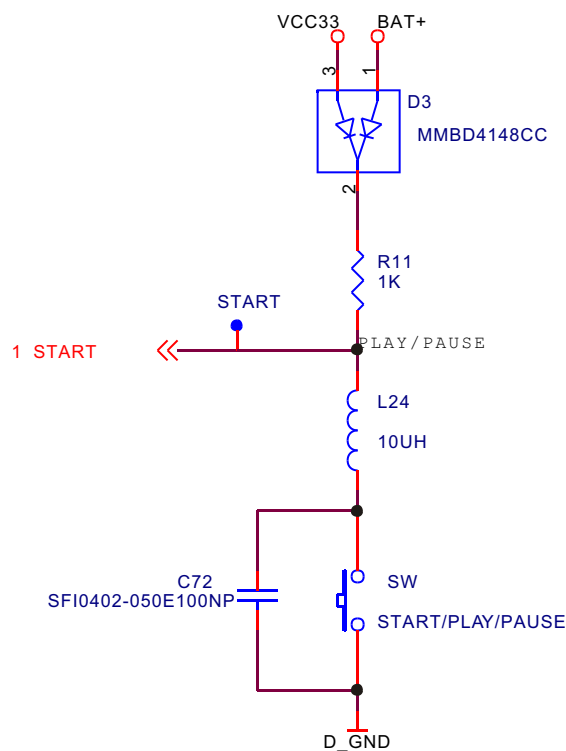

Figure 3.2.7.1 Power on control circuit schematic diagram
1. Power on/off control circuit of X17 (RU) is shown in the figure 3.2.7.1: